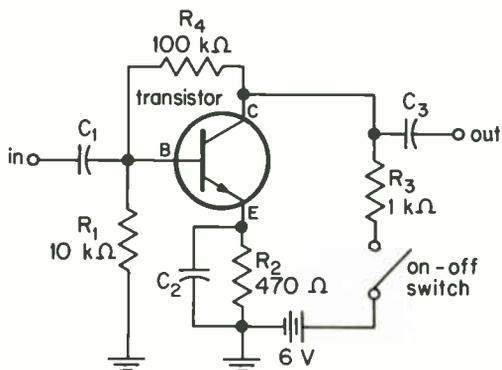

Fig. 44
4. In Fig. 44, one end of C_2 is tied to the emitter of the transistor. The other end is electrically connected to
5. In Fig. 44, resistor R_4 is electrically connected (with no components in between) to the
6. In Fig. 44, the negative (-) side of the battery is electrically connected directly (with no resistors or other parts in between) to which of the following? (Note: This question is similar to WHYL Problem 4 of Topic 17. Remember that parts may be connected together by means of the chassis, or "ground".)
7. The type of transistor shown in the schematic of Fig. 44 is